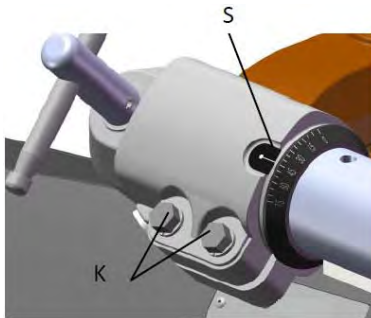

Fig. 33: Adjusting the angle of inclination
Step 1: Release the clamping lever for the boom arm and swivel the feed unit off the table. Loosen the screws (Pos. K, Fig. 33), set the desired inclination angle (Pos. S, Fig. 33) and tighten the screws (Pos. K, Fig. 33) again.